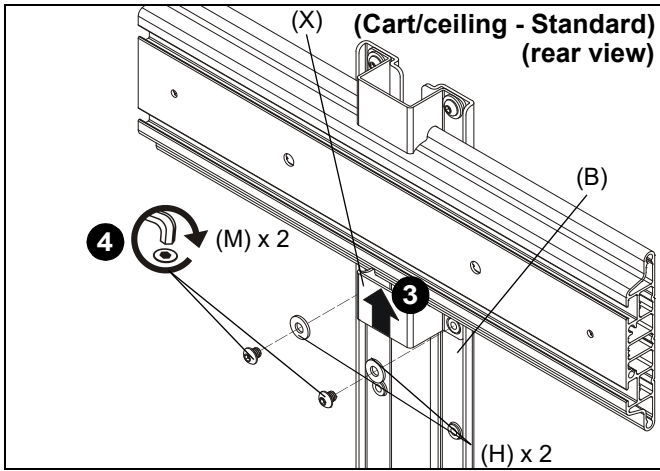

Figure 8
- Slide second shelf bracket (X) underneath head assembly, lining up holes on shelf bracket (X) to holes on main bracket (B). (See Figure 8)
- Use two 1/4-20 x 1/4" button head cap screws (M) and two large washers (H) to secure shelf bracket (X) to main bracket (B). (See Figure 8)